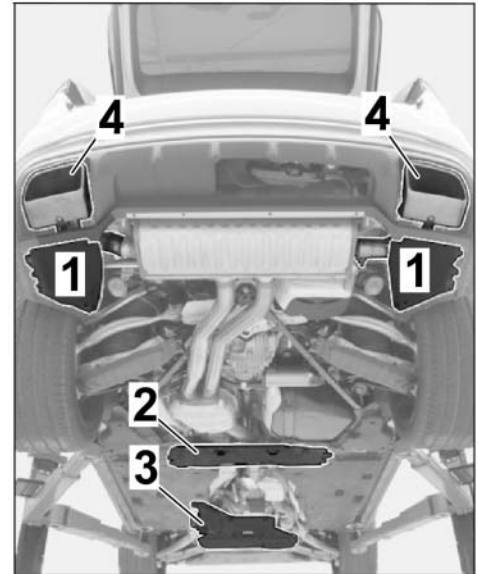

Figure 12
1.8.1 Remove rear underbody cover and rear tunnel cover (⇒ *Figure 12 -1 and 2-*). ⇒ *Workshop Manual '519419 Removing and installing cover for rear underbody'*